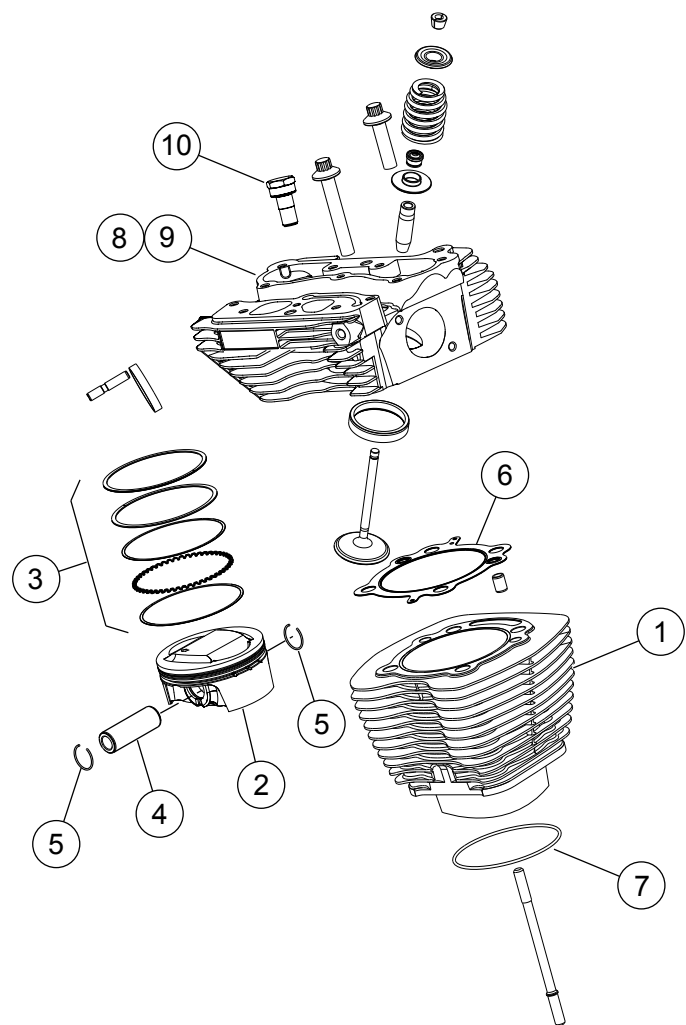
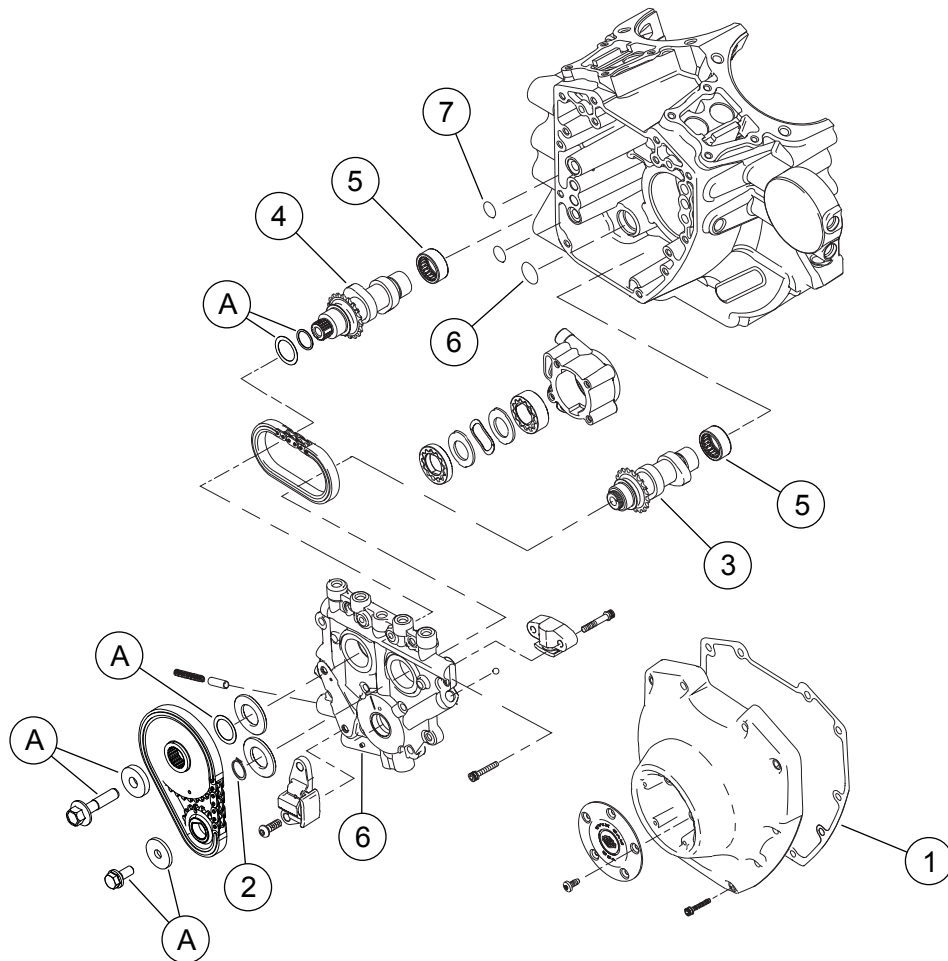

Figure 1. Service Parts: Screamin' Eagle TC 103 (1690 cc) Stage 4 Kit
Figure 3. Service Parts: Screamin' Eagle Pro 103 (1690 cc) Stage 4 Kit
See Figure 1 to Figure 3, and Table 1 to Table 3.
1. See Figure 3. Inspect camshaft needle bearings (7) and replace if necessary.
2. See Figure 1 through Figure 3. Assemble cams to camplate, performance cylinder heads and engine top end using parts from kit. Refer to appropriate ENGINE sections in service manual.